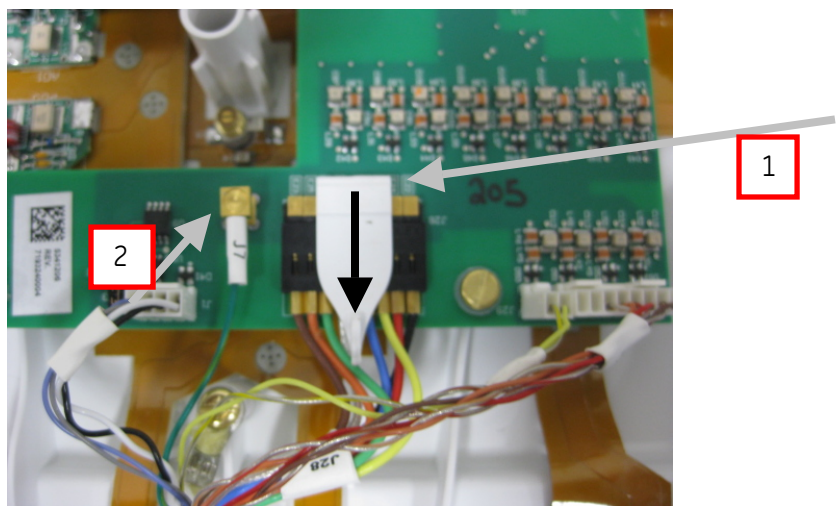

Figure 45: Unplugging Cable from TL
5.5.6 To remove cable clamp on TL, lift up on this side of clamp (grey arrow 1) and slide back (black arrow). See Figure 45.
5.5.7 Use pliers to remove the PCX connector (grey arrow2). See Figure 45.